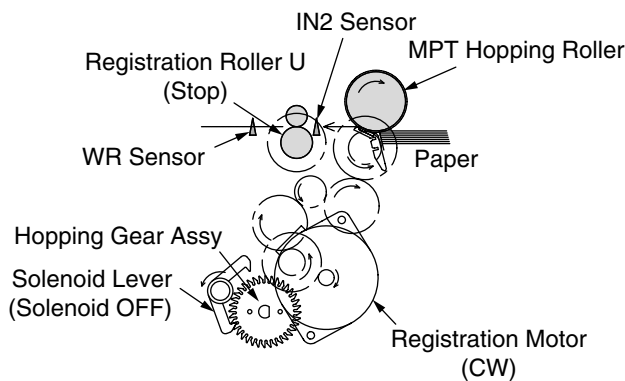

Figure 2-3
1. As indicated in Figure 2-3, when the solenoid is OFF, the registration motor rotates (CW) and continues to transport paper until IN2 sensor turns ON. (The MPT hopping roller drives the paper until the registration motor rotates in the CW direction.)